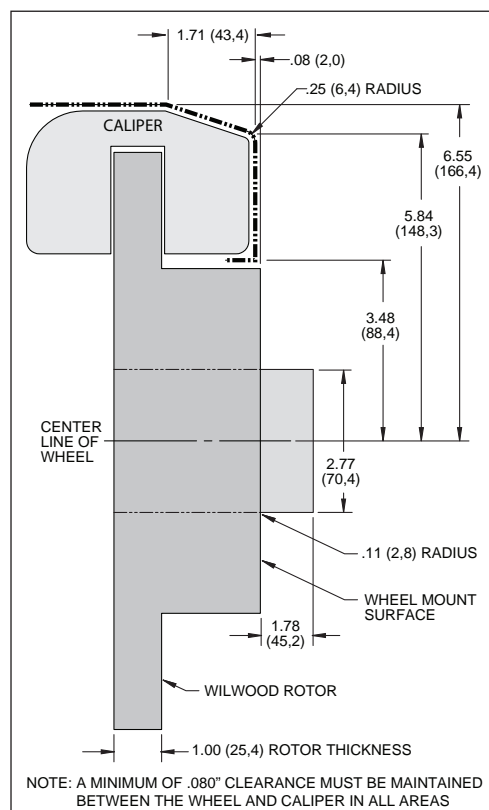

Figure 2. Wheel Clearance Diagram
- Review the Wheel Clearance Diagram (Figure 2, page 4) to verify that there is adequate clearance with the wheels you will be using with the installation.
- Verify wheel clearance using Figure 2.